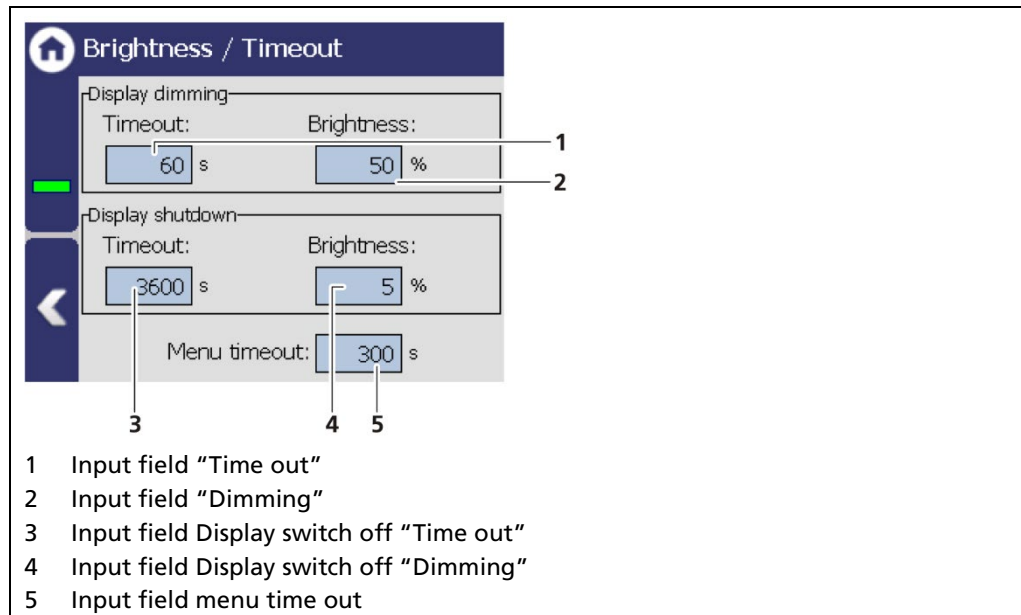

Fig. 42 Brightness / Time out settings
To set or change a password, select "Standard" (Fig. 42, item 4) and click on <Change password> (Fig. 42, item 2) to open the input field.
In the field Display dimming, clicking the input fields allows the entering of the brightness (Fig. 42, item 2) in percent, that is set after expiry of the time (Fig. 42, item 1).
In the field Display shutdown, clicking the input fields allows the entering of the brightness (Fig. 42, item 4) in percent, that is set after expiry of the time (Fig. 42, item 3).
Under "Menu Timeout" clicking on the input field (Fig. 42, item 5) changes the time period (seconds) in which the menu view changes to the standard view.